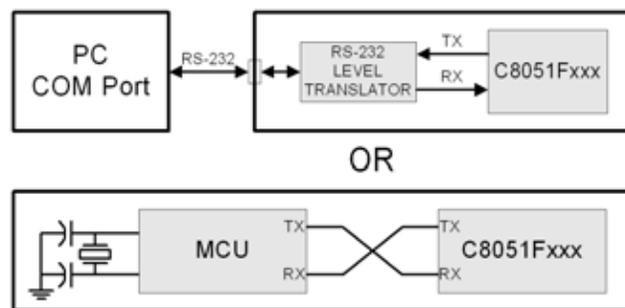

Figure 19.5. Typical UART Interconnect Diagram
In typical UART communications, The transmit (TX) output of one device is connected to the receive (RX) input of the other device, as shown in Figure 19.5.